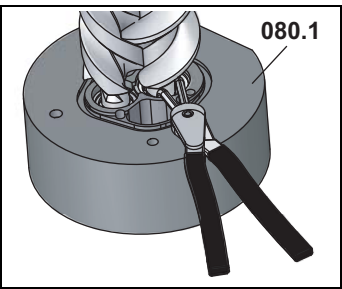

Fig. 15
3. Loosen the circlips **870.2** and **870.5** from recesses in the bearing cover, see Fig. 15, page 33.